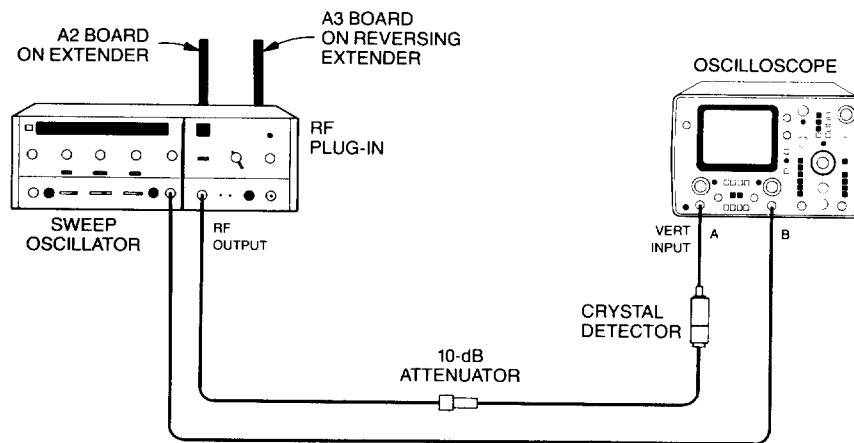

Figure 5-20. Delay Compensation Adjustments Setup
- Press 8620C LINE switch OFF. Connect equipment as shown in Figure 5-20. Remove A2 and A3 assemblies from 86290B. Install A2 assembly on an extender board. Install A3 on a reversing extender board.